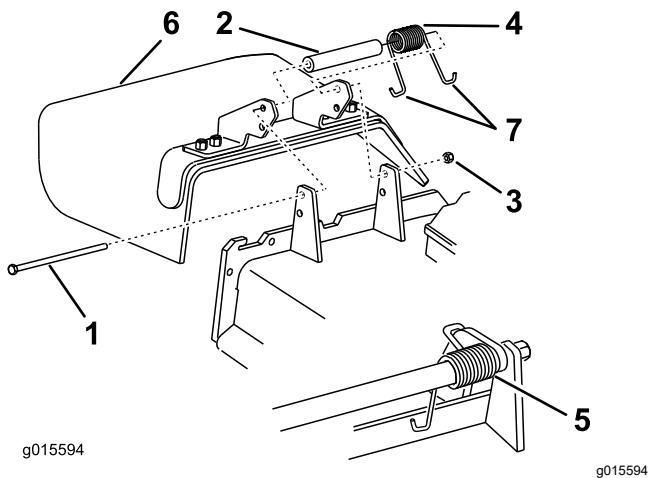

Figure 43
1. Place one end of the spring behind the deck edge and the other end on the grass deflector (Figure 43).
2. Use the bolt and nut to secure the grass deflector assembly to the mower deck (Figure 43).
3. Place the J-hook end of the spring around the grass deflector (Figure 43).